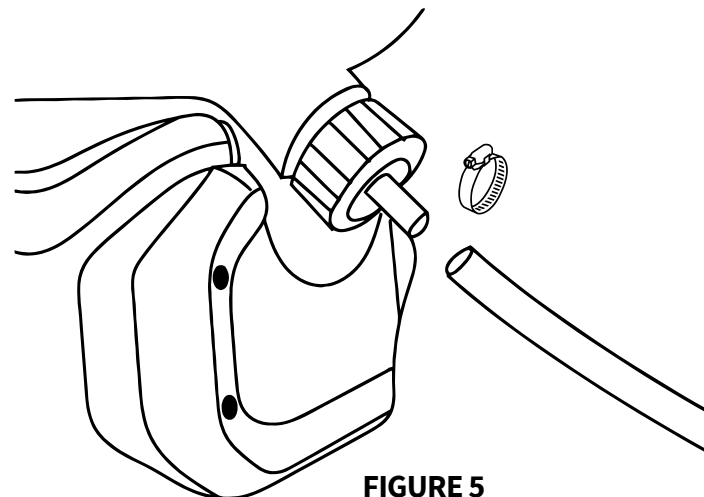

FIGURE 5
4.2.5 Attach a clear feeder tube to the base of the chemical tank. **FIGURE 5.**